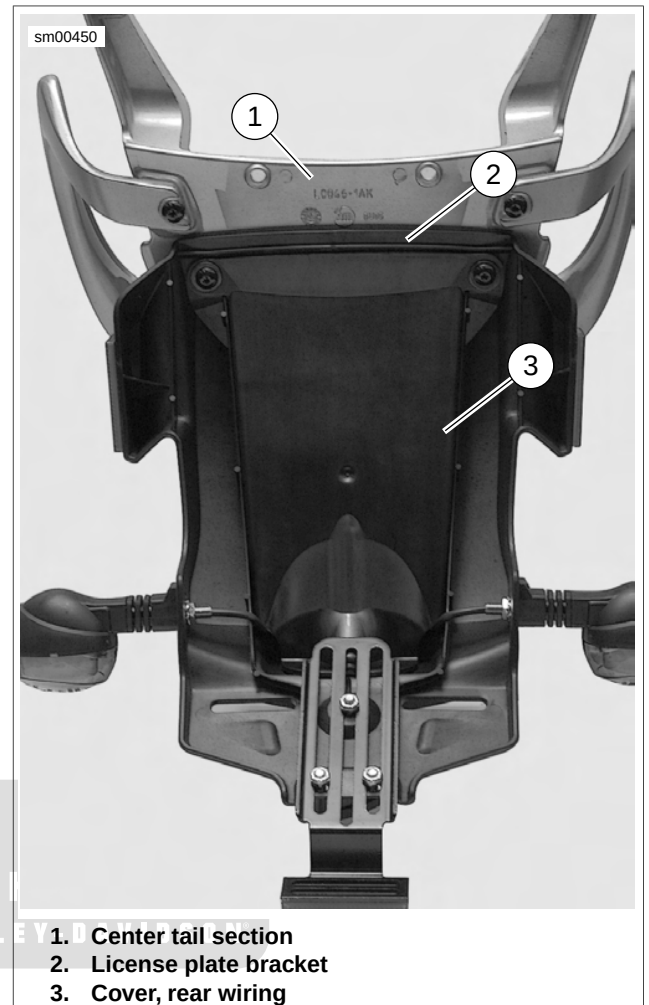

Figure 7-67. License Plate Lamp Mounting: Ulysses
1. See Figure 7-67. Install **new** license plate lamp assembly.
- a. Insert license plate lamp wiring harness through hole and route into the center tail section (2) and the license plate bracket (4).
- c. Attach lamp (3) and wire cover (5) to tail section using washers and jam nuts (1) and tighten to **12-36 in-lbs** (1.4-4.1 Nm).
- d. See Figure 7-67. Attach front of wire cover by installing remaining fasteners (6) and tightening to **36-48 in-lbs** (4.1-5.4 Nm).